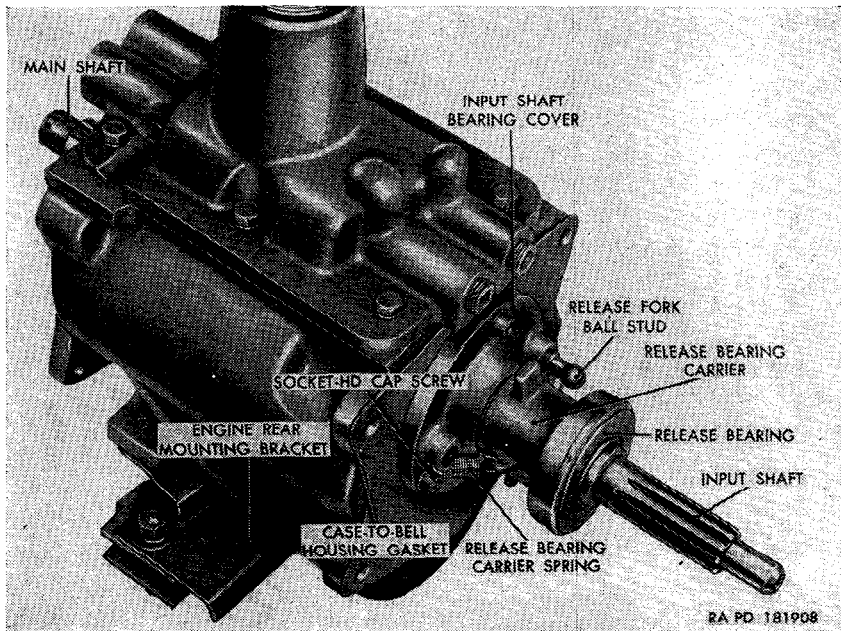

Figure 124. Transmission removed from power plant.
e. Disconnect the release bearing carrier spring (fig. 124) from the transmission input shaft bearing cover. Slide the release bearing carrier and release bearing off the input shaft. Remove the release fork ball stud from the bearing cover.
f. Remove the three socket-head cap screws and gaskets securing the input shaft bearing cover (fig. 124) to the front face of the transmission. Slide the cover off the input shaft and remove the case-to-bell housing gasket. Discard gasket.
a. Position the engine rear mounting bracket (fig. 124) on the bottom of the transmission. Secure the bracket to the transmission with four $\frac{3}{8}$ -inch lockwashers and $\frac{3}{8} \times \frac{5}{8}$ bolts.
b. Coat a new case-to-bell housing gasket (fig. 124) with plastic-type gasket cement. Position the gasket against the front face of the transmission, aligning the gasket holes with the transmission holes. Slide the transmission input shaft bearing cover over the shaft and into position against the gasket. Secure the cover and gasket to the transmission with three $\frac{5}{16}$ -inch screw gaskets and $\frac{5}{16} \times 1\frac{1}{4}$ socket-head cap screws.
c. Slide the release bearing carrier (fig. 124) and release bearing on to the input shaft, making certain to position the two flanges vertically as shown in figure 124. Connect the release bearing carrier spring to the bearing cover on the transmission. Install the release fork ball stud in the bearing cover hole.